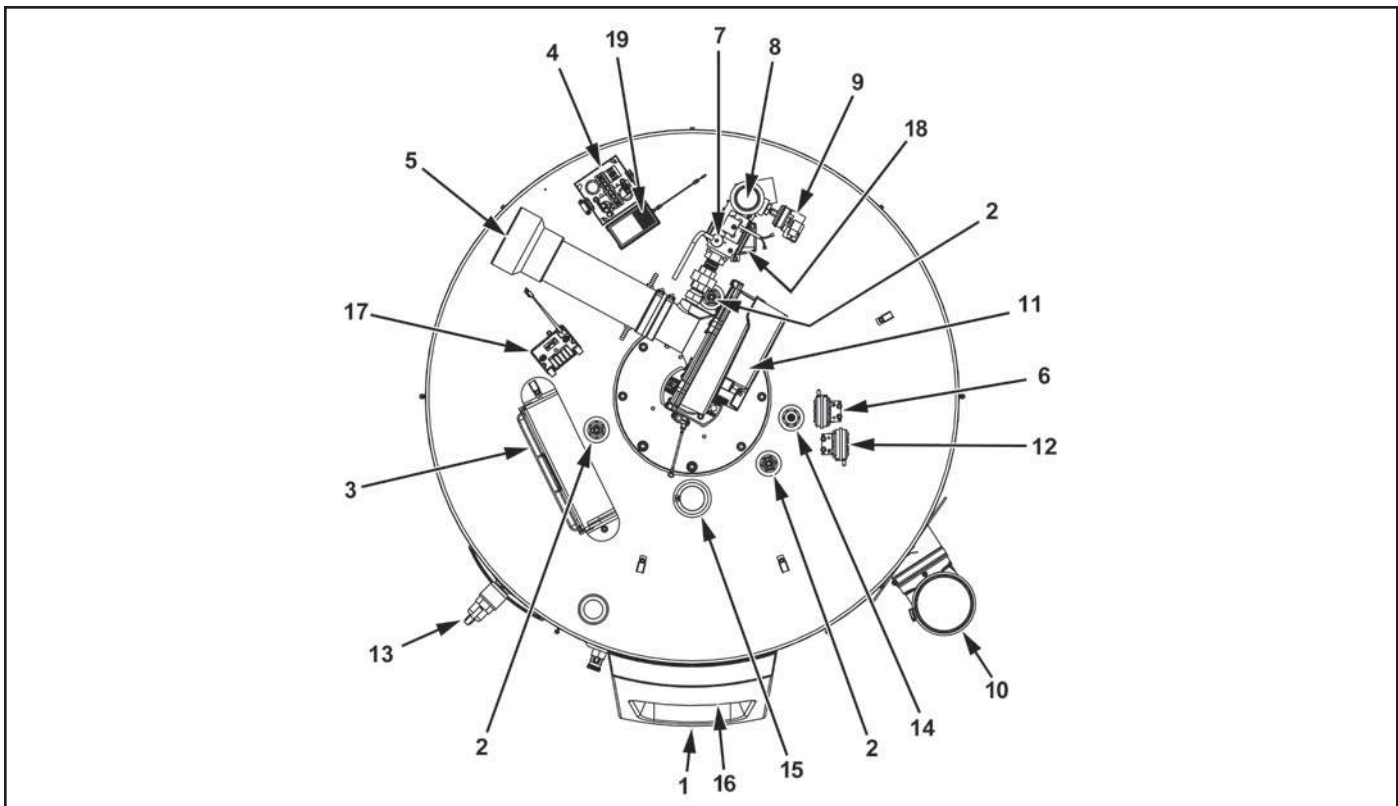

Figure 3. Top View
2. CCB enclosure - see Figure 3 on page 8 for description.
6. Low Gas Pressure switch, see description under Figure 3 on page 8. See Table 4 and the Gas Pressure Requirements on page 10.